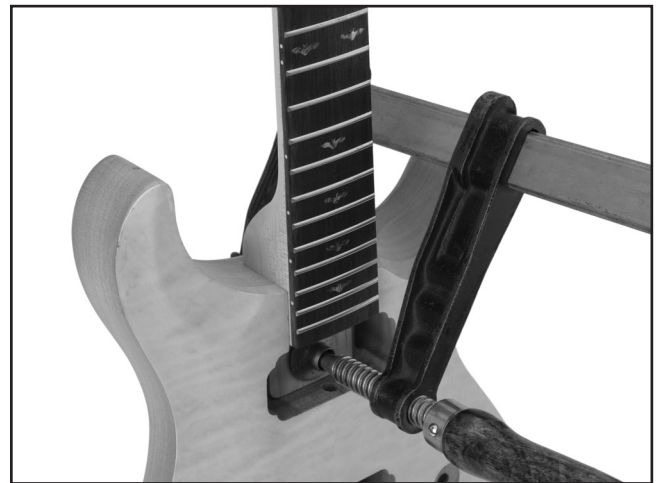

Figure 16. Clamping the neck to the body.
4. Clamp the neck to the body as shown in **Figure 16**. Note—*To protect the neck and body, place wood blocks and pads between the clamp and the guitar.*